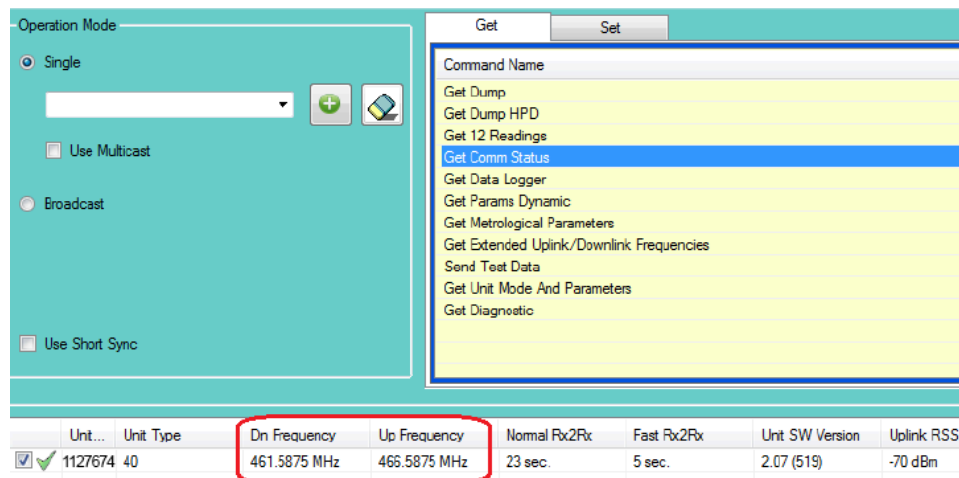

Figure 20
- The results shown at the bottom of the application window happily confirm the Allegro Photocell Repeater is programmed to the **City of XYZ's** frequency (see figure 20).